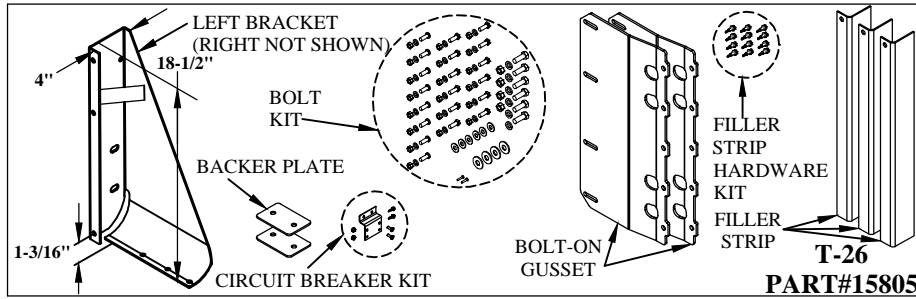

Figure 1: T-26 Part Identification.
2. **Verify** mounting bracket kit (Figure 1 and Table 1).